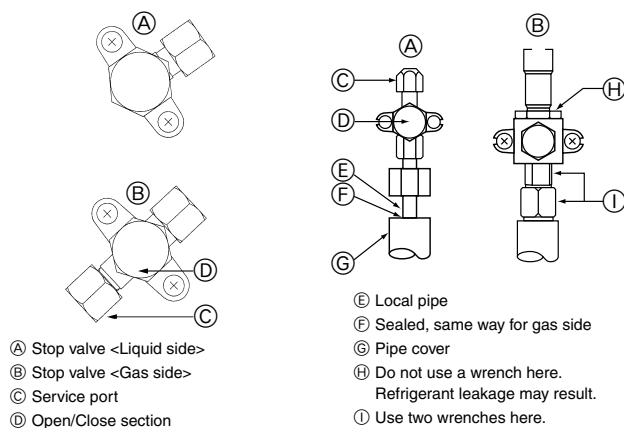

Fig. 4-4
4.4. Refrigerant pipe airtight testing method (Fig. 4-4)